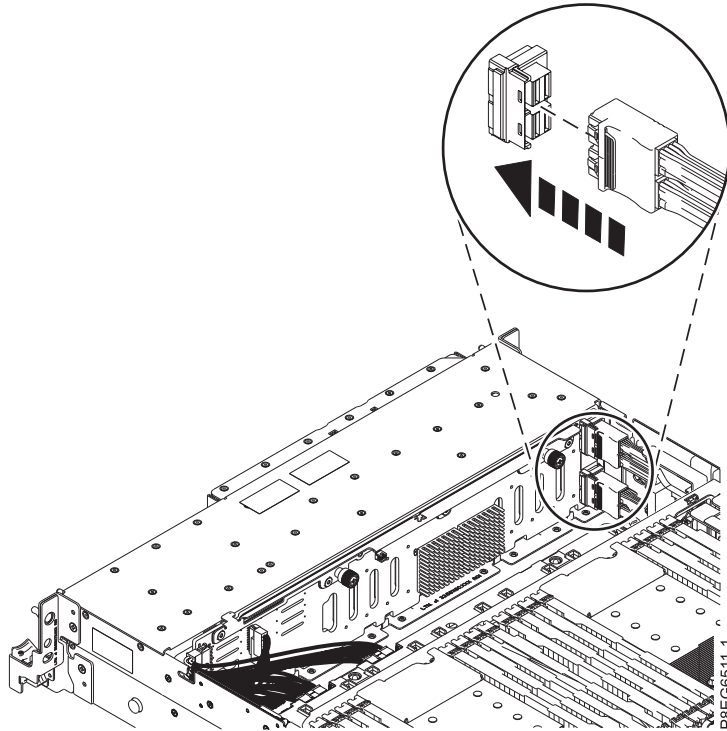

Figure 9. Reconnecting the front SAS cable to the disk drive backplane
- Reconnect the front SAS cable to the connector port on the disk drive backplane. Push the connector in until the connector latch clicks, as shown in Figure 9 on page 11.